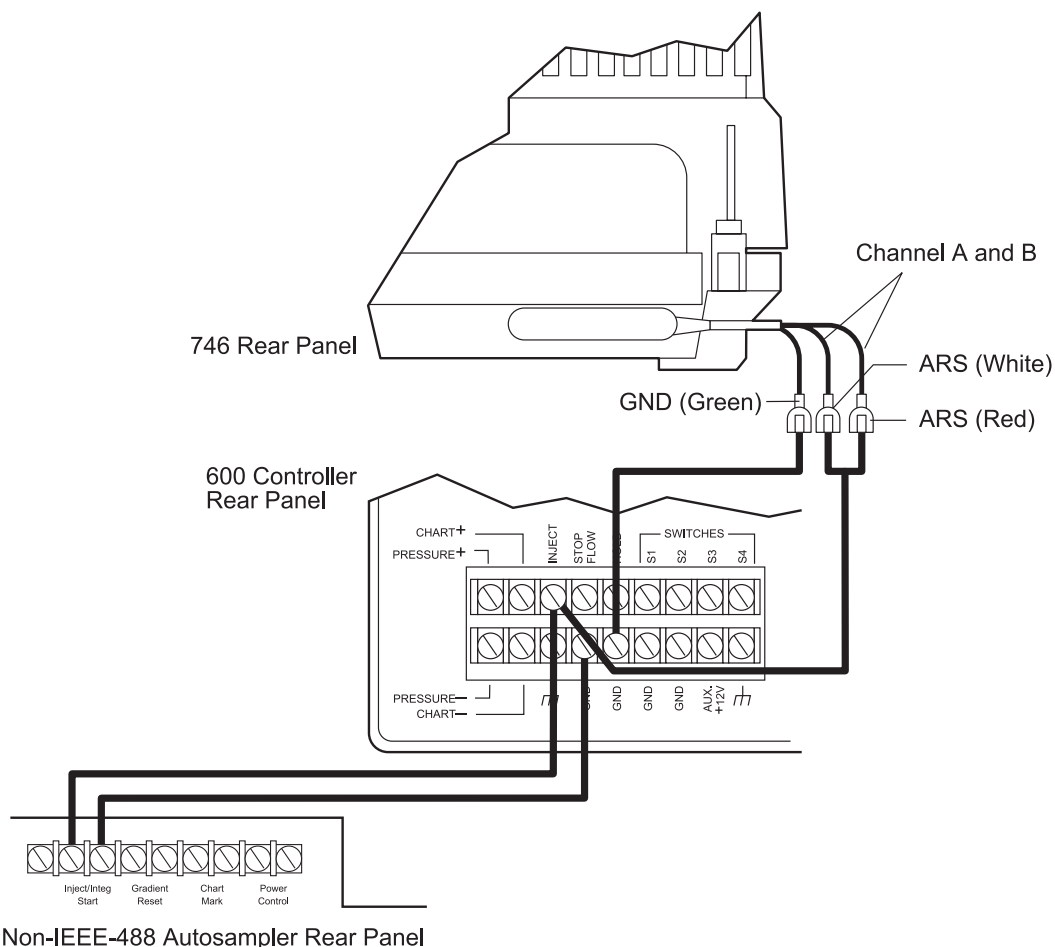

Figure 3-10 Connecting the Waters 746 and Autosampler to the Inject Terminal
- If you use a non-IEEE-488 autosampler, the autosampler provides the inject start signal to trigger both the 600 controller and Waters 746. Both the autosampler and the Waters 746 connect to the 600 controller Inject terminal (Figure 3-10).
Figure 3-10 illustrates connecting both the Waters 746 and a non-IEEE-488 autosampler to the 600 controller Inject signal.